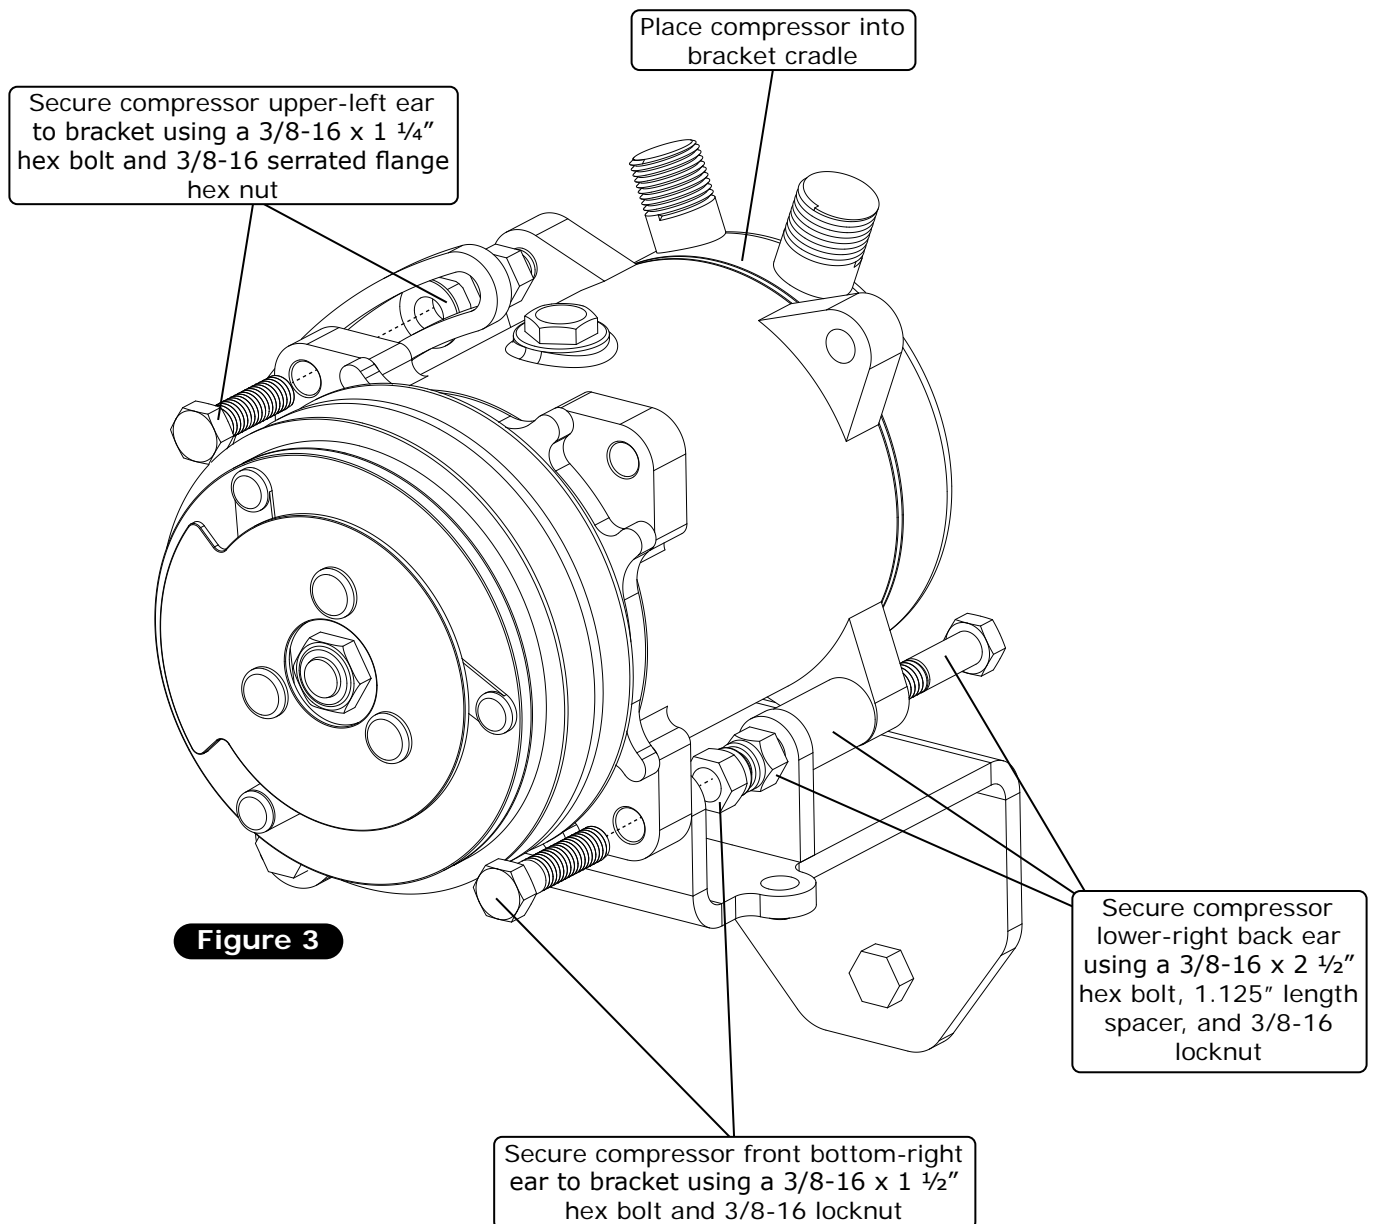

Figure 3
6. Place the compressor into the bracket cradle (See Figure 3, below).
7. Secure the front bottom-right ear of the compressor to the bracket using a 3/8-16 x 1 1/2" hex bolt and a 3/8-16 locknut (See Figure 3, below). Leave loose.
8. Secure the lower-right back ear of the compressor using a 3/8-16 x 2 1/2" hex bolt, a 1.125" length spacer, and a 3/8-16 locknut (See Figure 3, below). Leave loose.
9. Secure the upper-left ear of the compressor to the bracket using a 3/8-16 x 1 1/4" hex bolt and a 3/8-16 serrated flange hex nut (See Figure 3, below). Leave loose.